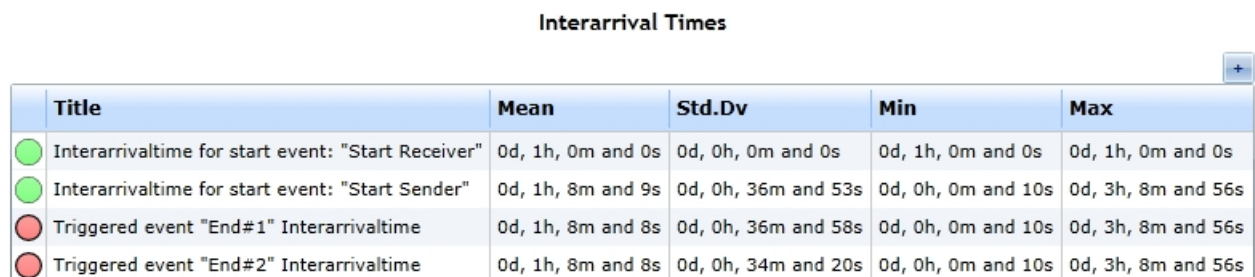

Figure 4: The inter-arrival times of events
- Have a look at Figure 4, specifically at the inter-arrival time of the start event "Start Sender"